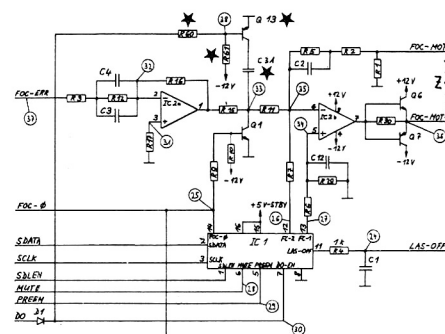

Fig. 3.3 ★ not used for 1.769.315
- Modification of 1.769.310 to 1.769.315 is recommended. Only unsoldering of capacitor C 31 is required (Fig. 3.3).